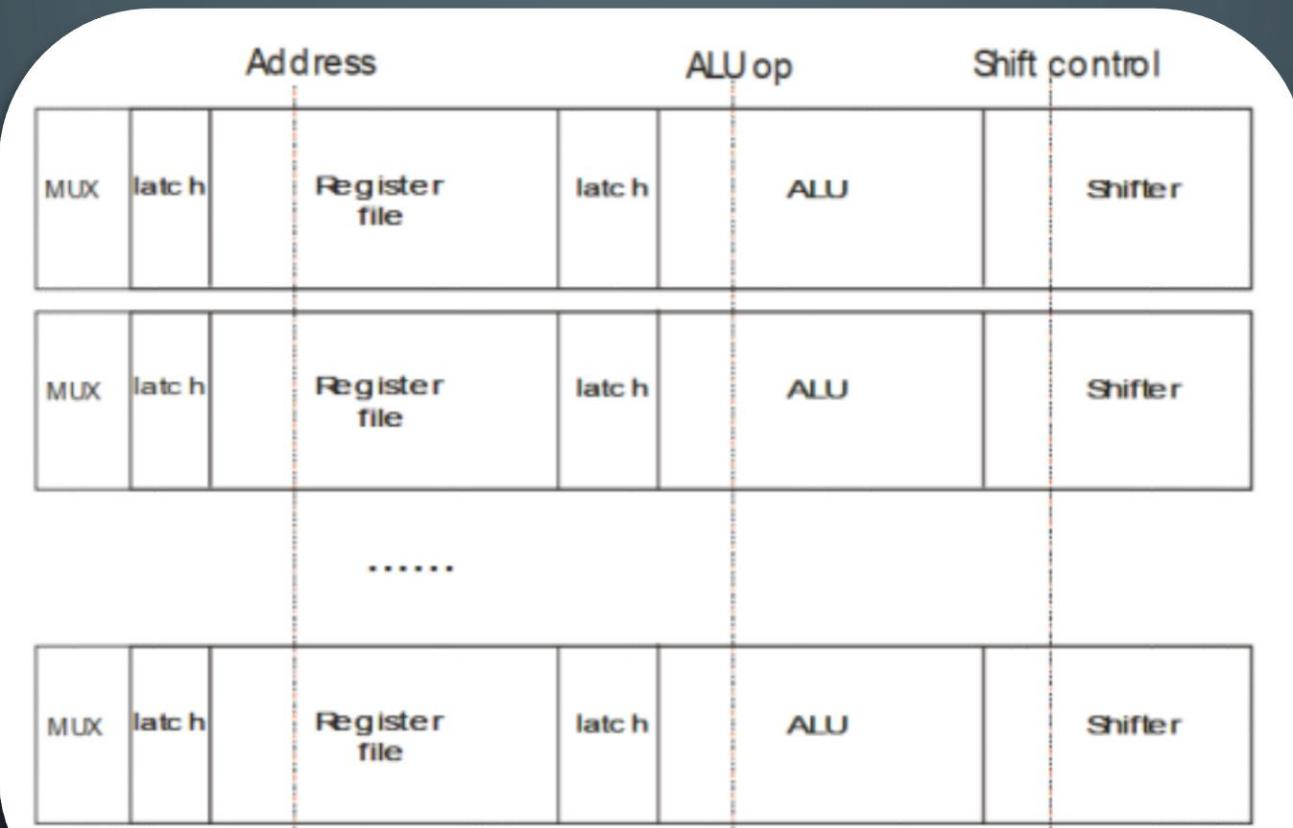

Figure 2: Floorplan of the datapath
f. **Size specifications:** no specific layout size is required, but optimization of physical size is a design priority, and higher scores will be awarded to groups with smaller layouts. The floorplan in Fig. 2 will assist in achieving an optimal layout.
- The 4-bit datapath can be implemented by constructing a 1-bit slice horizontally and stacking 4 one-bit slices vertically. This layout floorplan for the data path is shown in Fig. 2. The data flows horizontally from the left to the right. The control signals run vertically across each slice. You may implement some functional blocks as 4 bits, but make sure you organize it in 1-bit slices that can be pitch-matched to the other functional blocks.